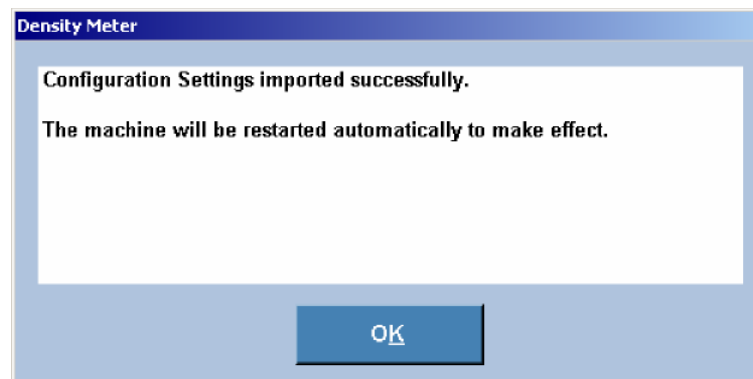

Figure 10.47 – Configuration Import Successful
- 3) After the configuration settings have been imported you will see the screen shown in figure 10.47 below. Click the **OK** button and the instrument will reboot. The import is finished.